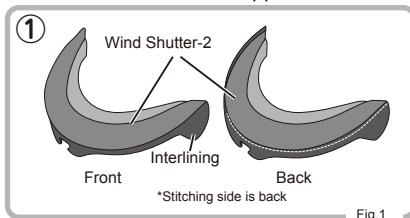

Fig.1
- ① Insert the joint hook at the centre of the inner pad into the attachment slit on the helmet as shown in Fig.1.  $\Delta$  is the guideline for attachment.
Refer to Fig.1 and check the front side and back side of the Wind Shutter.